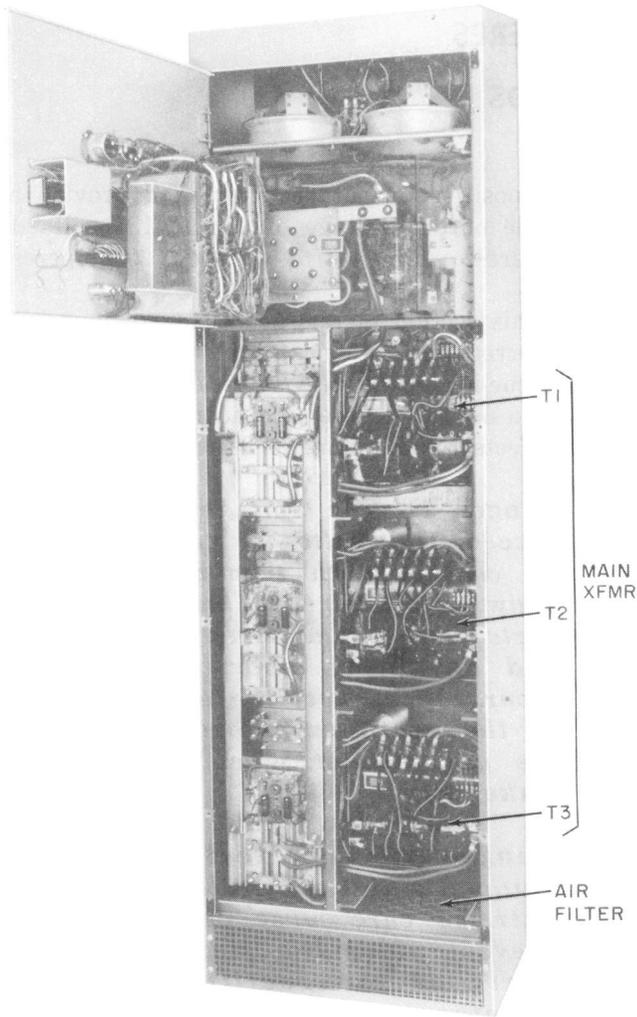

Fig. 1—KS-21113 Rectifier—Front Covers Removed
**1.03** This rectifier is designed to be serviced and maintained from the front of the unit only. All electrical connections can be made and maintenance performed with the front covers removed (see Fig. 1). The current meter, controls, fuses, and